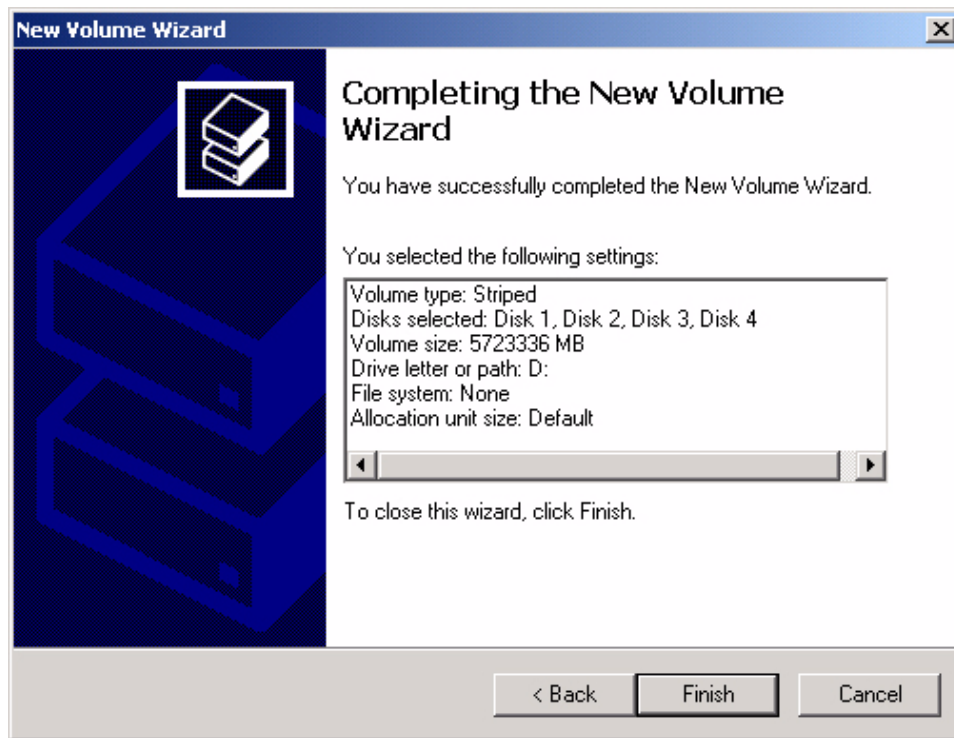

FIGURE 6-34. New Volume Wizard - Completing the New Volume Wizard Screen.
6. The *New Volume Wizard - Completing the New Volume Wizard* screen appears. Review the settings that have been made. If incorrect, click **< BACK** to make a correction at a previous screen. If OK, click **FINISH**. See Figure 6-34.